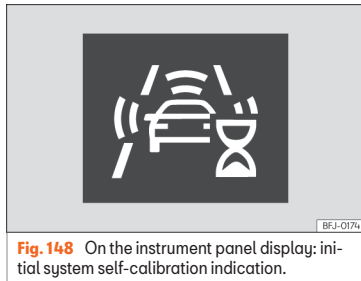

Fig. 148 On the instrument panel display: initial system self-calibration indication.
- In the first few instants of driving after switching on the ignition, due to the system's initial auto-calibration. During this period, a status icon >>> **Fig. 148** is displayed.